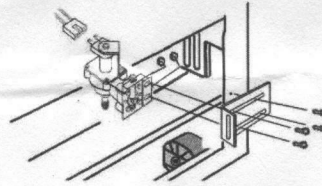

Figure 8
10. Mount new valve to refrigerator as shown in Figure 8. Self tapping machine screws and sheet metal screws are both provided in this kit.